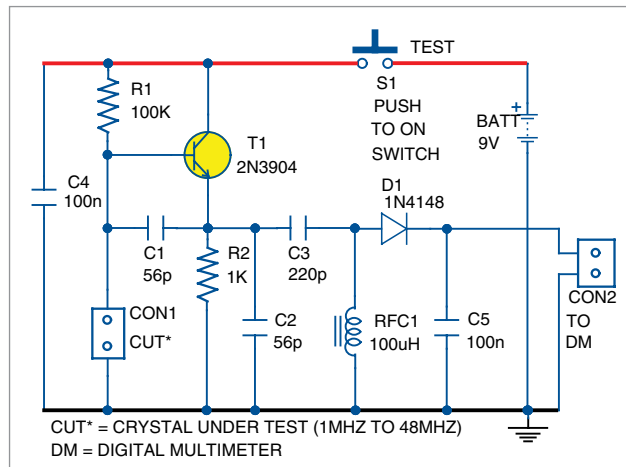

Fig. 1: Circuit diagram of the portable crystal tester
Fig. 1 shows the circuit diagram of the portable crystal tester. It is built around general-purpose transistor 2N3904 (T1) and a few other components. T1 is an easily-available radio frequency (RF) transistor.